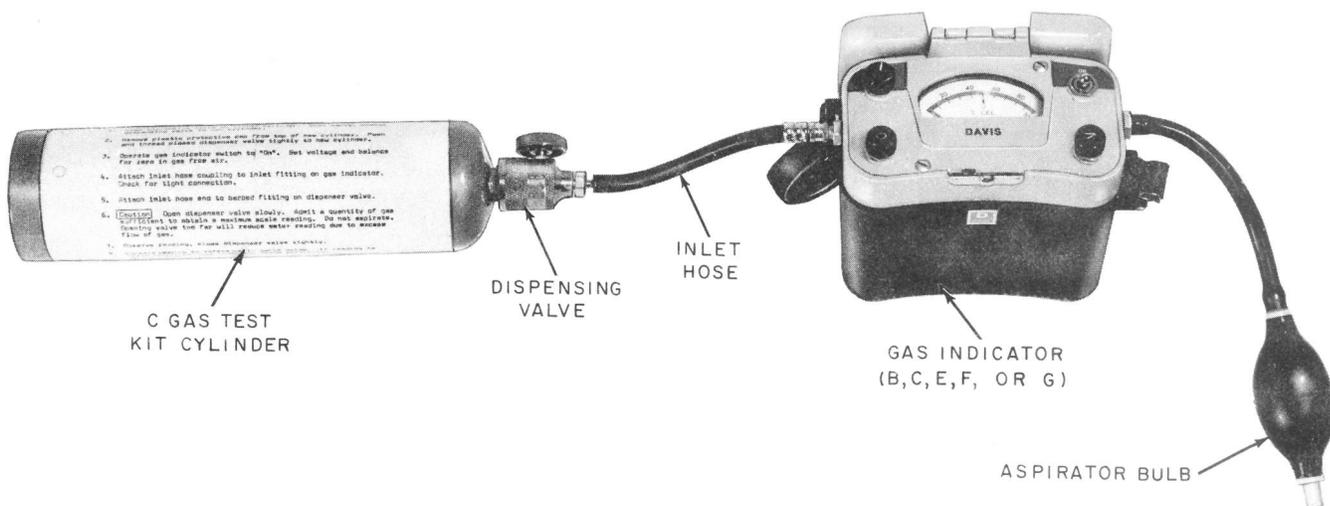

Fig. 2—C Gas Test Kit Ready for Use
- (1) Turn on the gas indicator, set the voltage, and/or balance for zero in gas free air as covered in the appropriate Section (paragraph 1.04).
- (2) Attach the gas indicator to inlet hose with the appropriate coupling for the type of gas indicator being used. The hoses are identified by the gas indicator letter code stamped on the hose coupling, such as B, C, etc.
- (3) Check the hose for a tight connection.
- (4) Slide the free end of the hose over the dispenser valve barbed fitting. The indicator is now ready for testing as shown in Fig. 2.